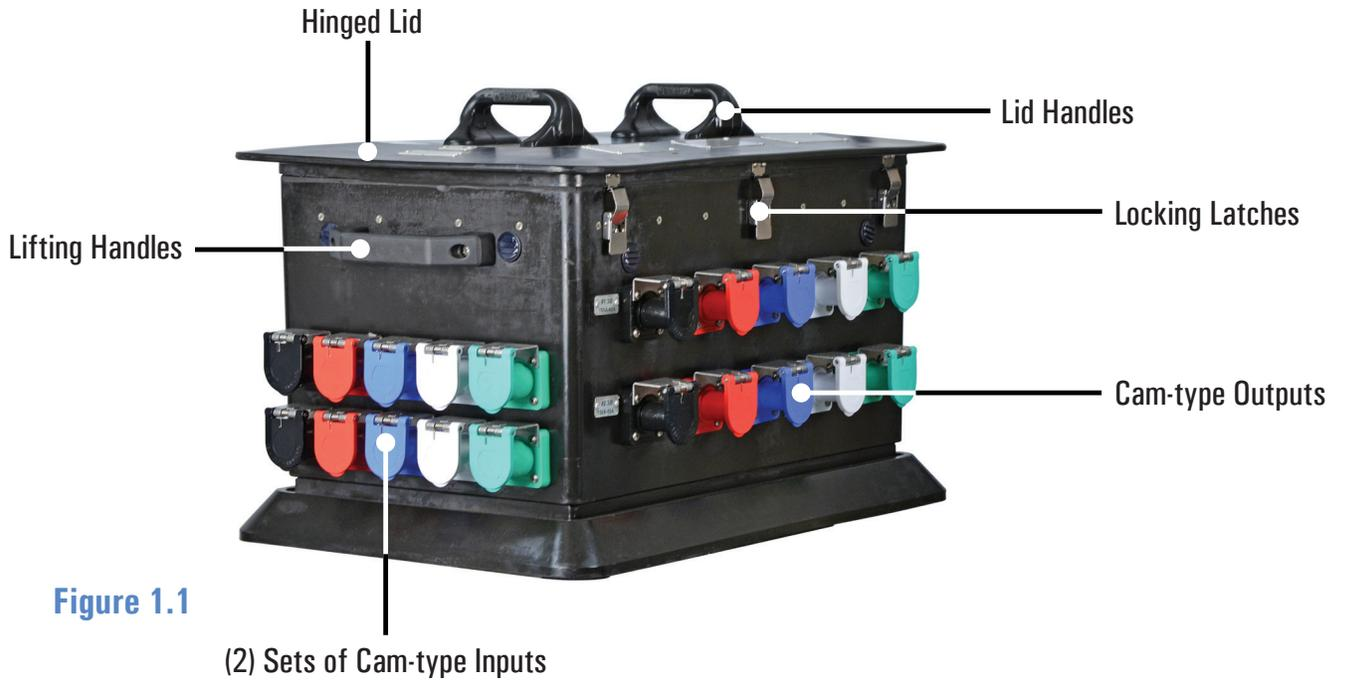

Figure 1.2
- a. When moving the Load Master box, use the lifting handles on the sides of the box (Figure 1.2)